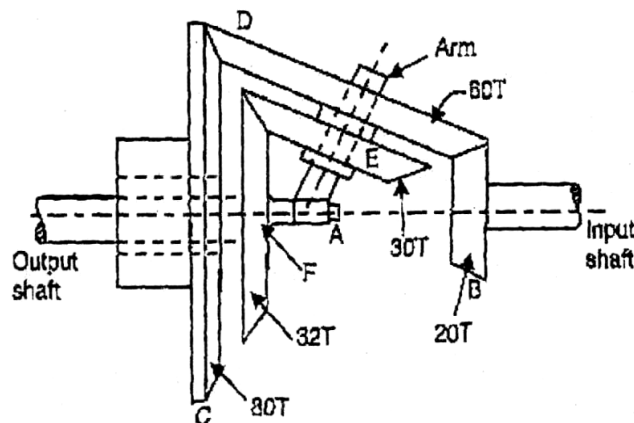

Fig. 14 (b)
- (b) In a gear train, as shown in figure, gear B is connected to the input shaft and gear F is connected to the output shaft. The arm A carrying the compound wheels D and E, turns freely on the output shaft. If the input speed is 1000 r.p.m. counter-clockwise when seen from the right, determine the speed of the output shaft under the following conditions : (1) When gear C is fixed, and (2) When gear C is rotated at 10 r.p.m. counter clockwise. (Refer fig. 14(b))
- (16)